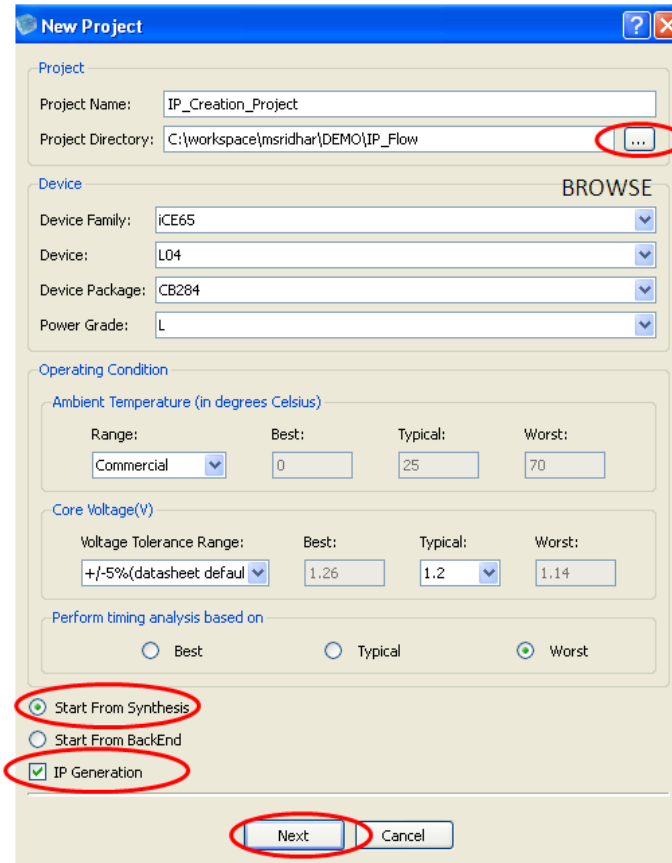

Figure 8-1 New Project Creation
1. Launch the iCEcube2 tool and create a new project from **File > New Project**. In the New Project Window, enter the project name, set device and operation conditions. Make sure that the *Start from Synthesis* and *IP Generation* options are selected. Click Next. See Figure 8-1.